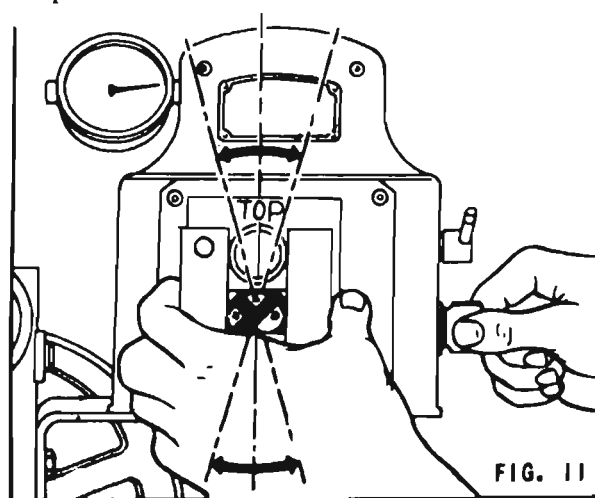

FIG. 11
4. Expand gaging fingers by turning adjusting knob counter-clockwise until gaging points just contact setting blocks, as indicated by a slight movement of the dial indicator hand. (*NOTE: Keep a very light pressure to the left, to prevent moving the sensitive gaging finger accidentally*). While rocking the setting fixture slightly clockwise and then counter-clockwise (see Fig. 11), further expand gaging points until the maximum counter-clockwise swing of indicator hand reaches approximately the 3 o'clock position.